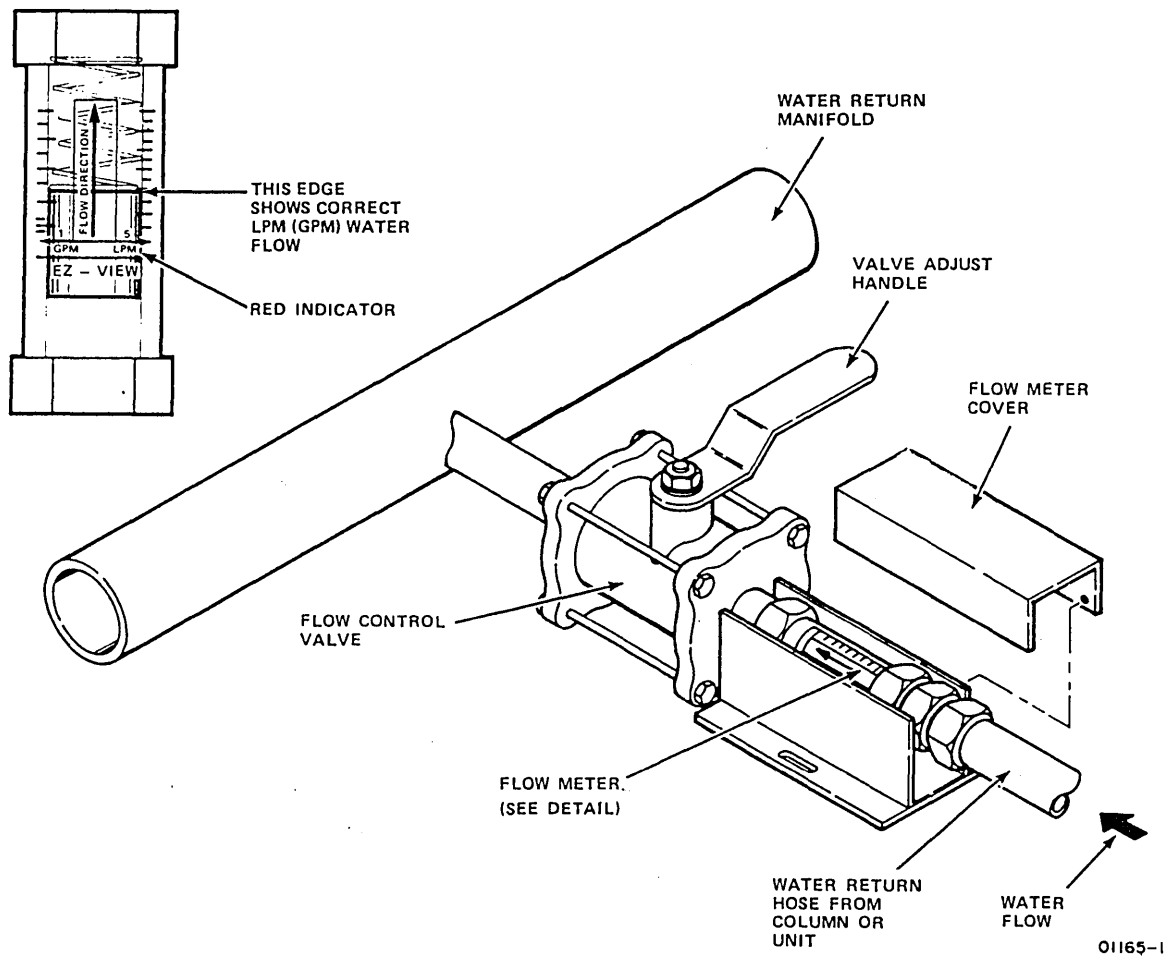

Figure 3-32. CP Column and CM Water Flow Meters and Valve Adjust Handles
- ___ 2. Remove flow meter covers (figure 3-32) by pulling them upward and off.